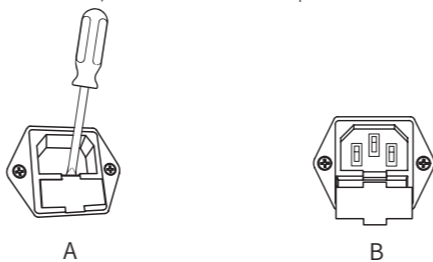

Fig 11
a) Insert a straight screwdriver into the recess in the fuse compartment below the power socket and use it as a lever (Fig.11-Ref.A);
b) Pull out the fuse compartment (Fig.11-Ref.B);
c) Put the compartment back into place (Fig.11-Ref.B).